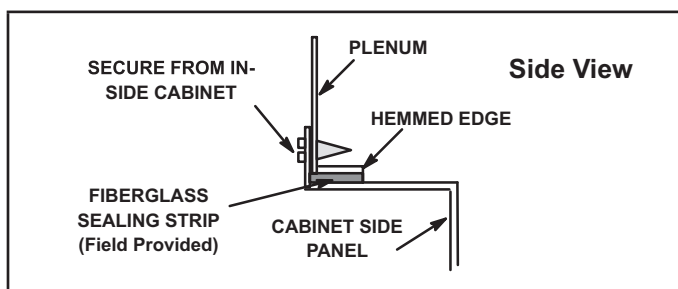

Figure 10
- 4 - In closet installations, it may be impossible to install sheet metal screws from the outside. In this case, make plenum with a removable front and install screws from the inside (See figure 10).